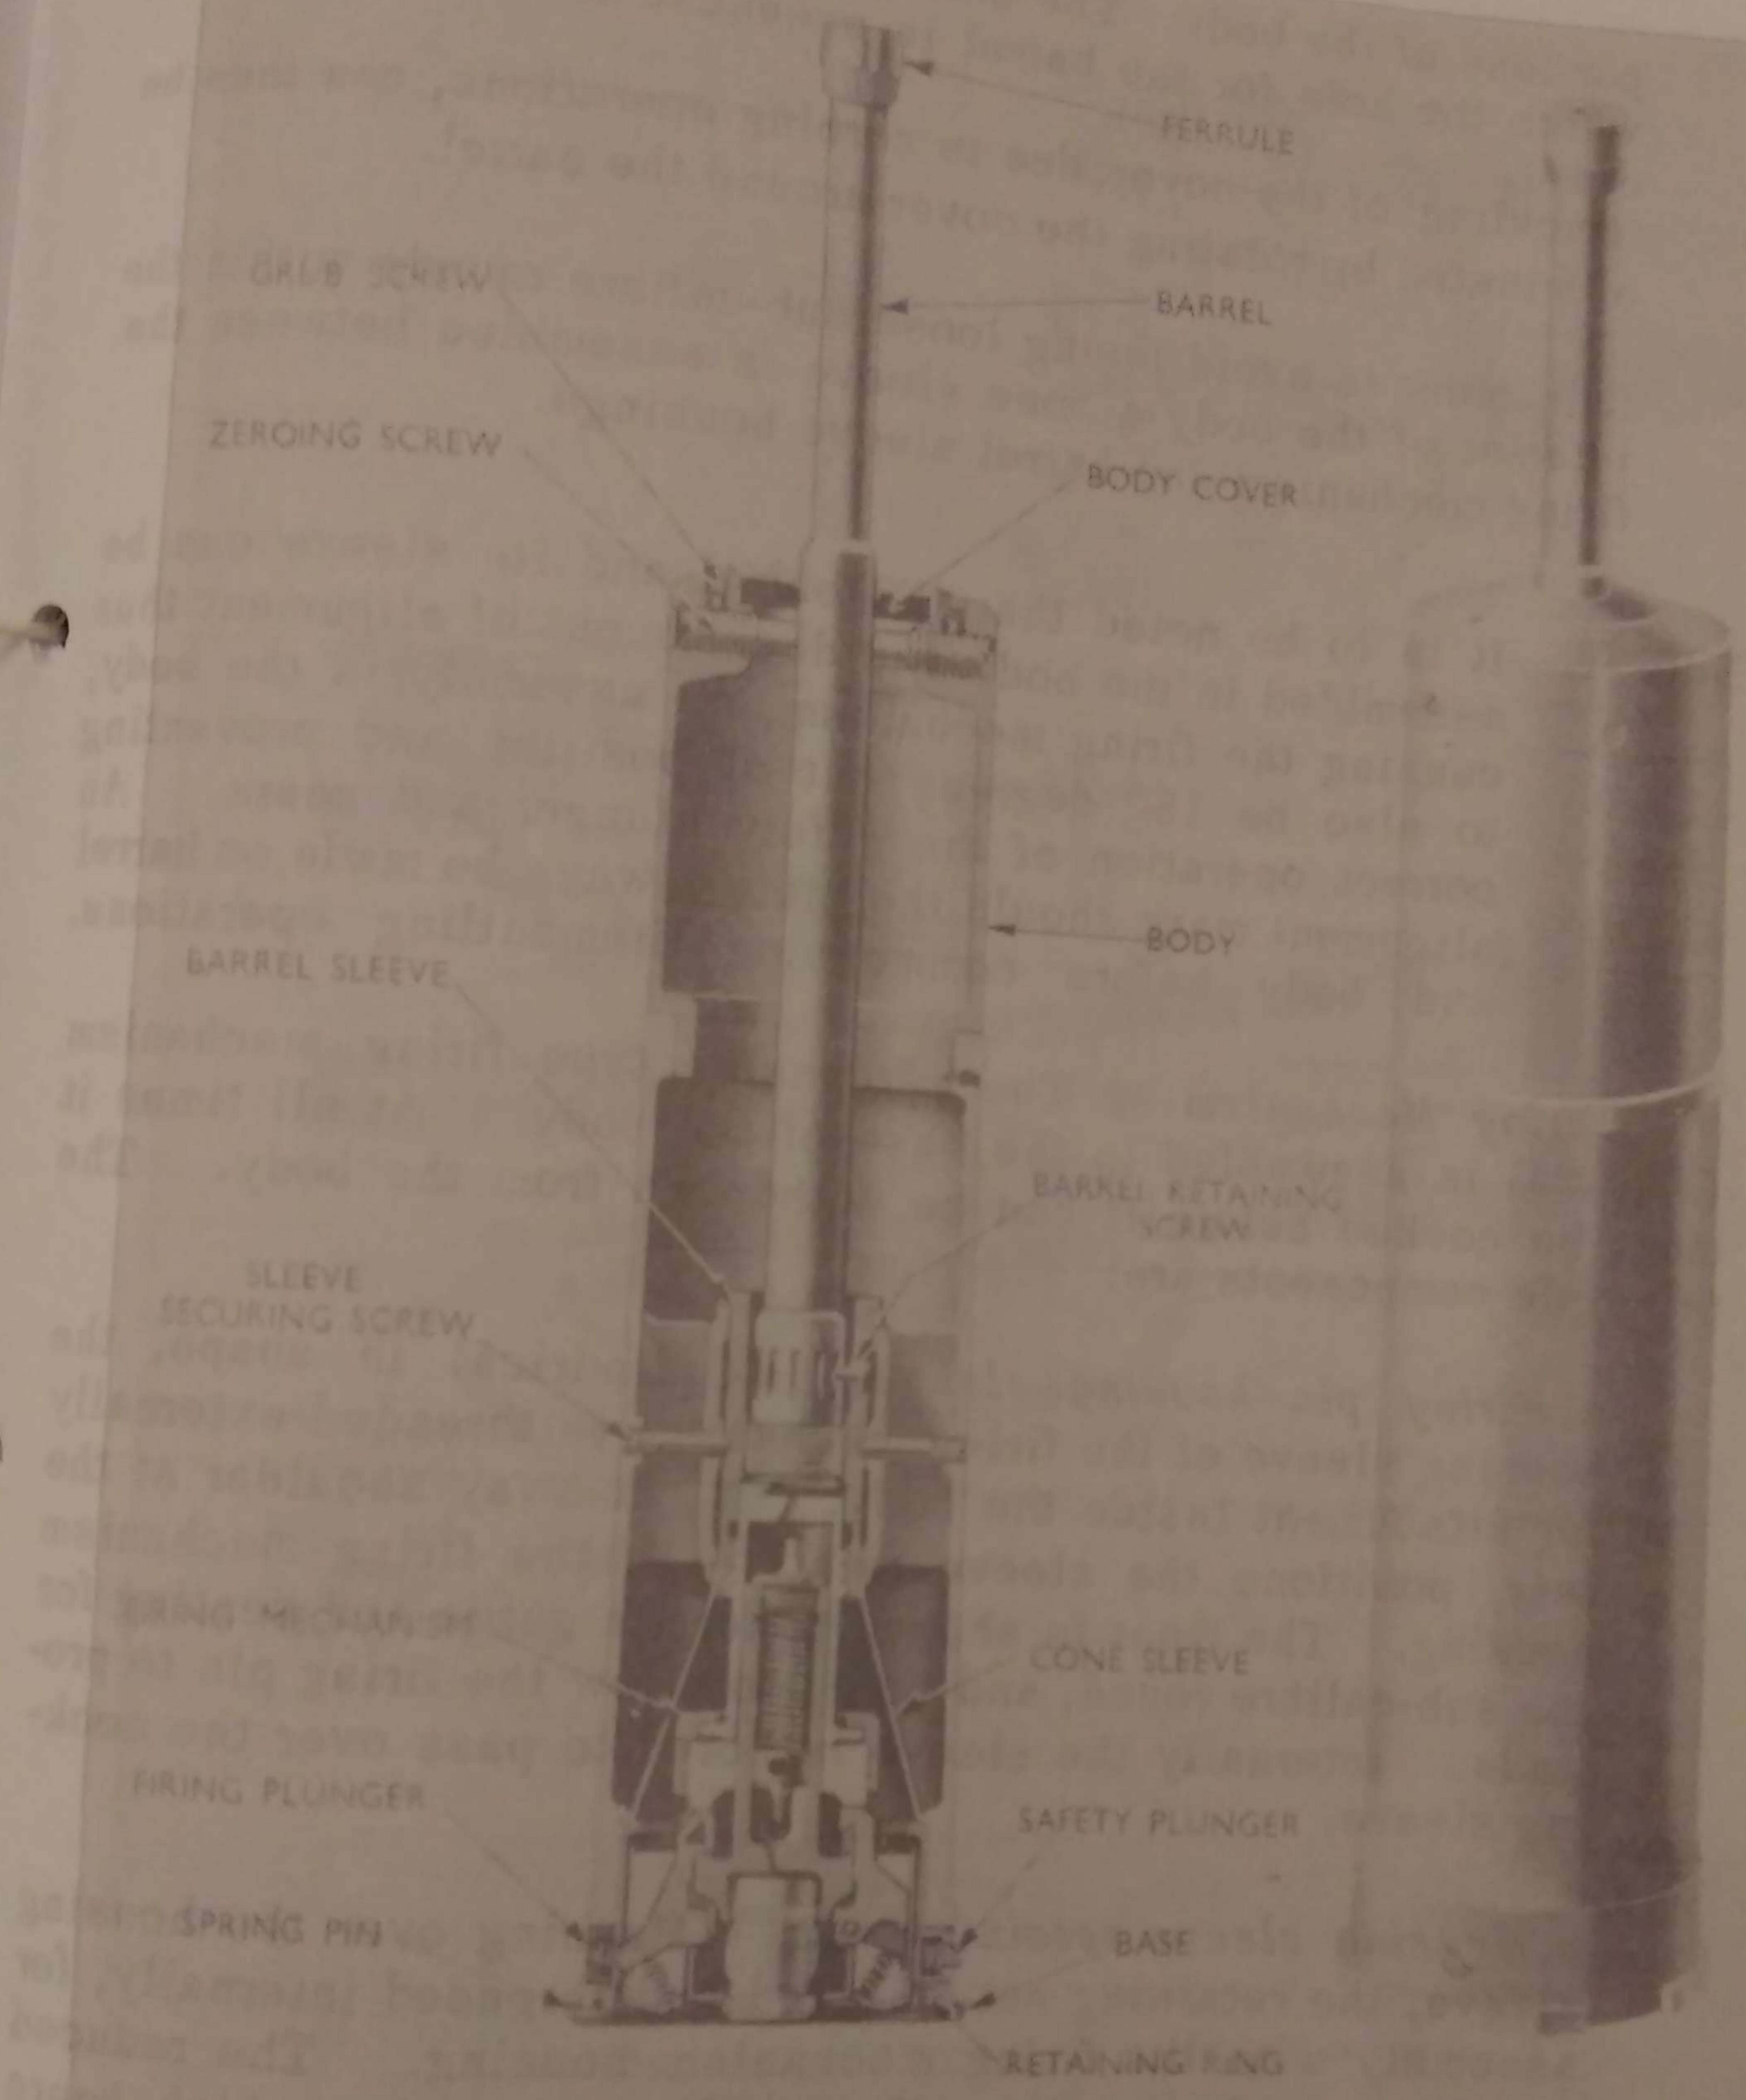

Fig 24 84mm Sub-Calibre Adapter 14142
66. *Body (L1A2 Adaptor).* The body for the L1A2 adaptor (Fig 24) differs from that of the L1A1 principally as follows: